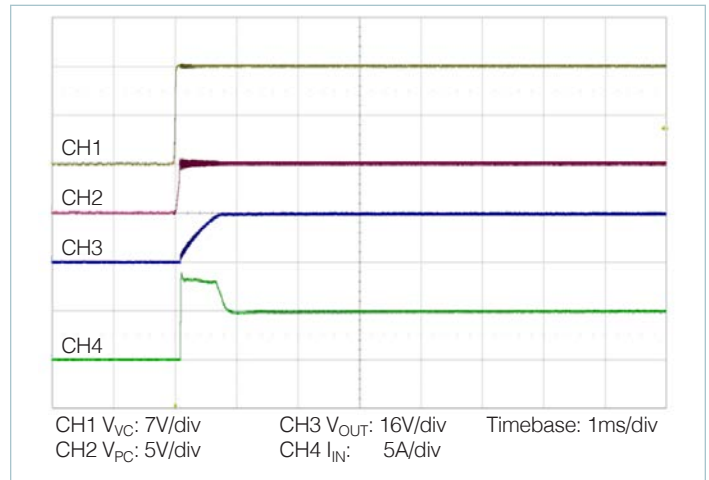

Figure 14 — Start up from application of VC; V_{IN} pre-applied $C_{OUT} = 800\mu\text{F}$
- **Stand-alone operation (VC applied after V_{IN}):** In this case the VTM output will begin to rise upon the application of the VC voltage (See Figure 14). The Adaptive Soft-Start Circuit may vary the output rate of rise in order to limit the inrush current to its maximum level. When starting into high capacitance or a short, the output current will be limited for a maximum of 1200 μ s. After this period, the Adaptive Soft-Start Circuit will time out and the VTM module may shut down. No restart will be attempted until VC is re-applied or PC is toggled. The maximum output capacitance is limited to 800 μ F in this mode of operation to ensure a successful start.